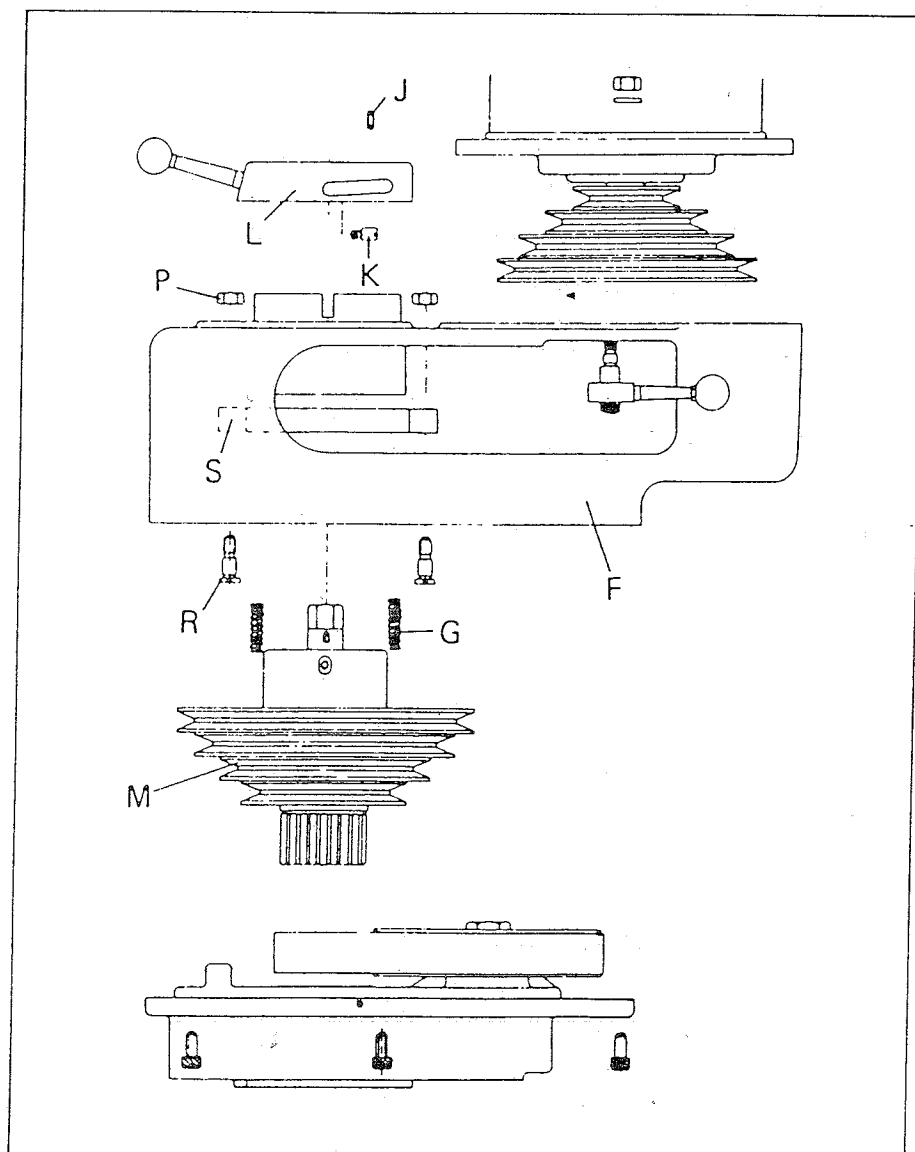

Figure 22
(2) Replacement of Brake Block
- a. It is the same with the replacement step a to g of V-Belt and timing belt to take out the belt housing (F).
- b. Take off two M3 setting screws (J), two convex ring screws (K) and convex ring (L). Separate the belt housing (F) and front belt pulley set (M) and take out the four pressure springs (G).
- c. Remove the nuts (P) of three brake block and take off the bolts (R) as shown in Figure 22. Then replace the brake block (S).